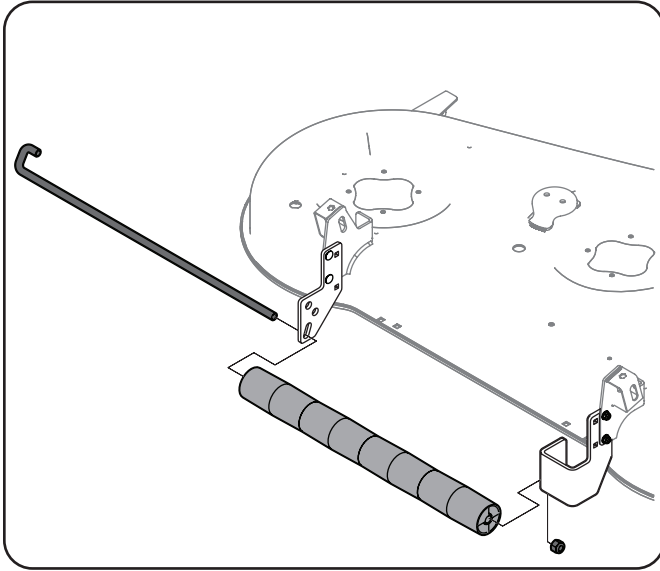

Figure 1-11
3. Make sure that the J-shaped end on the Roller Pin is secured in the mounting hole of the Left Roller Bracket (#6) and then secure the end on the Roller Pin with a 1/2 Lock Nut (#4). See Figure 1-11.